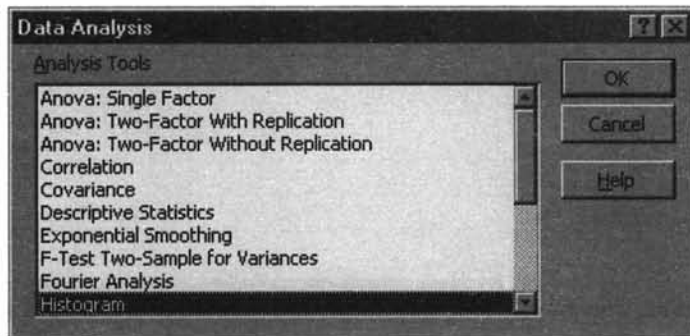

Figure 2.6
- Step 2** Click Tools. Click Data Analysis. Click Histogram. As you can see in figure 2.6, Histogram option is highlighted.